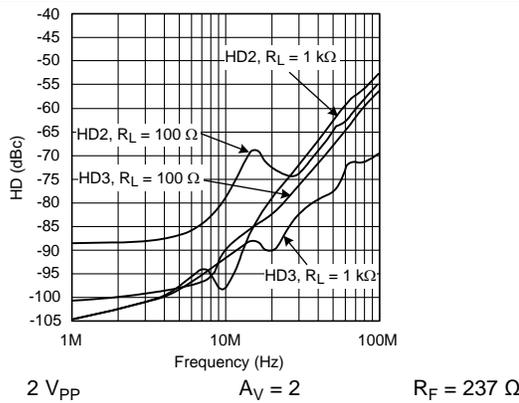
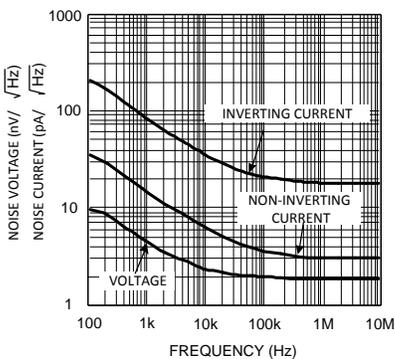

Figure 9. Harmonic Distortion vs Load and Frequency (SOIC Package)
Figure 17. Noise
2. Ultra-low distortion approaching -87 dBc at the lower frequencies and exceptional noise performance (see Figure 9 and Figure 17).